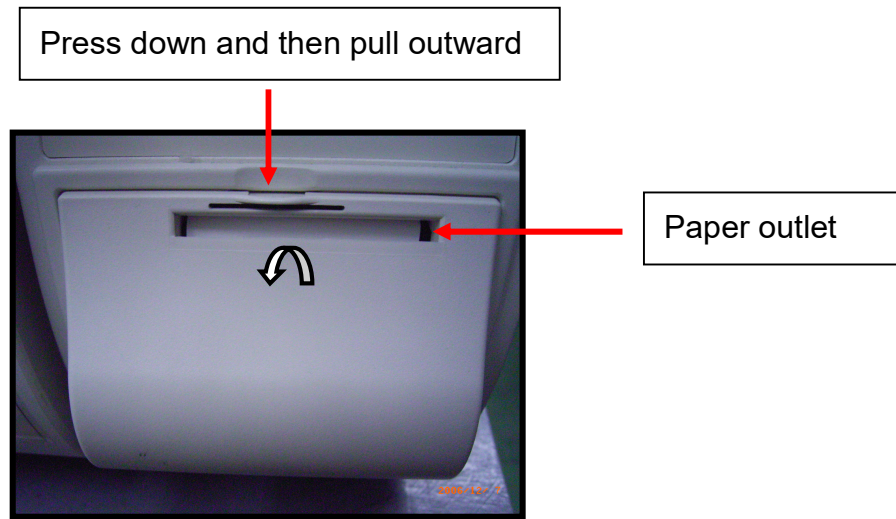

Figure 161
- B. Press down and then pull outward the rim of the printer cover (See Figure 161).